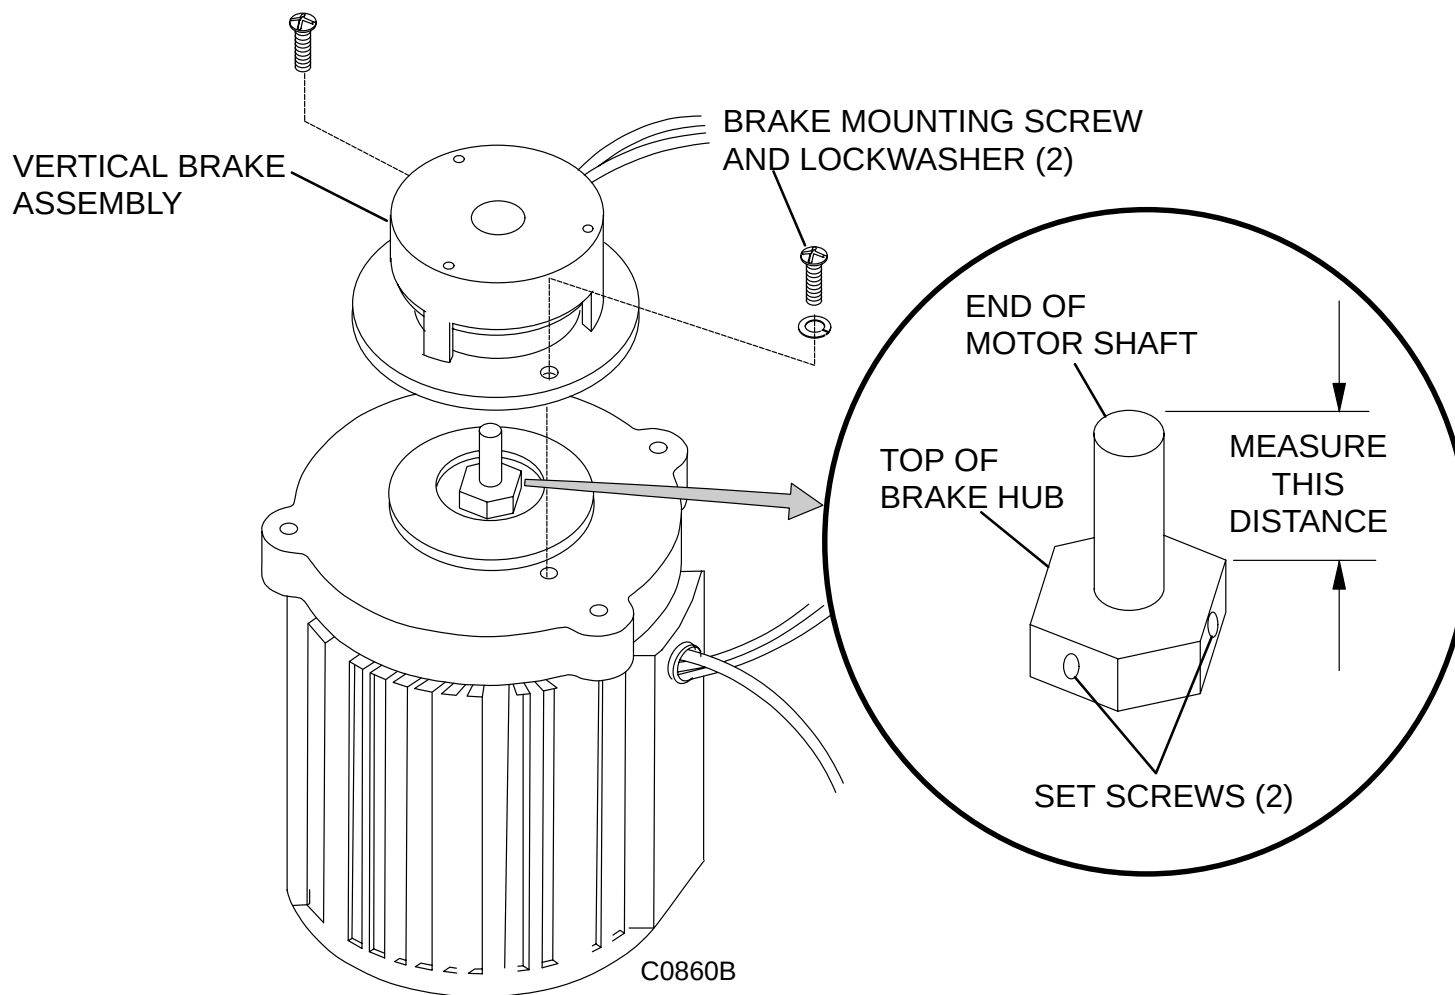

FIGURE 212 VERTICAL BRAKE ASSEMBLY
13. Remove the vertical brake assembly and the gasket (if present). DO NOT cut the brake wires as stated in the brake procedure. Refer to the Vertical Brake removal/replacement procedure and Figure 212.
14. Measure and record the distance from the top of the brake hub to the end of the motor shaft. Refer to Figure 212.
18. Install the brake hub onto the top shaft of the replacement motor in the same location as recorded in step 14. Refer to Figure 212.